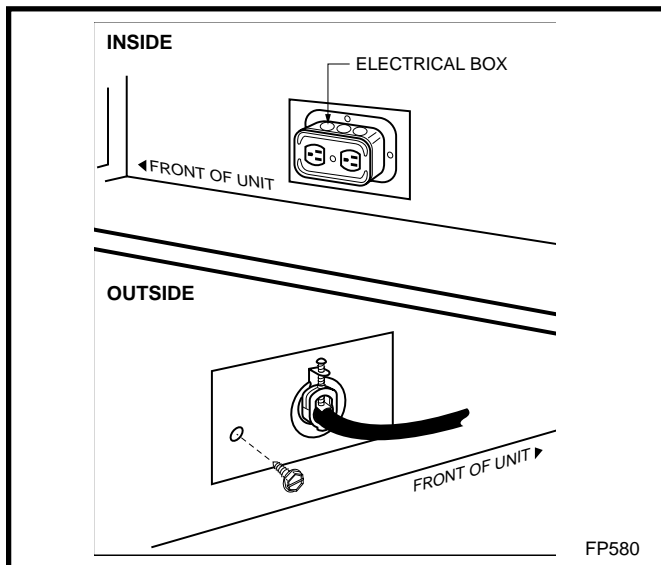

Fig. 7 EB-1 receptacle.
1. Unscrew the retaining screw from the EB-1 base plate (Fig. 7) and remove the EB-1 assembly from the fireplace.
4. Feed the supply line in from the outside through the cable clamp. (Fig. 7)